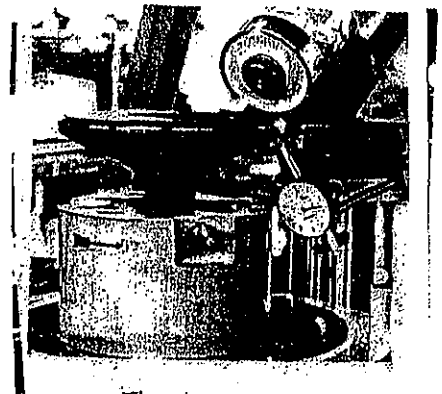

Fig. 4
- Set a dial gauge to the seat surface of valve spindle. (As shown in Fig. 4)